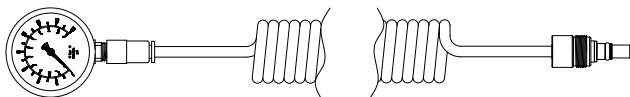

Figure 53: CP Target Gauge VS-32344
3. **Disconnect** a tire hose at one of the hubcaps and **install** CP target gauge (Figure 53) in the hubcap port.